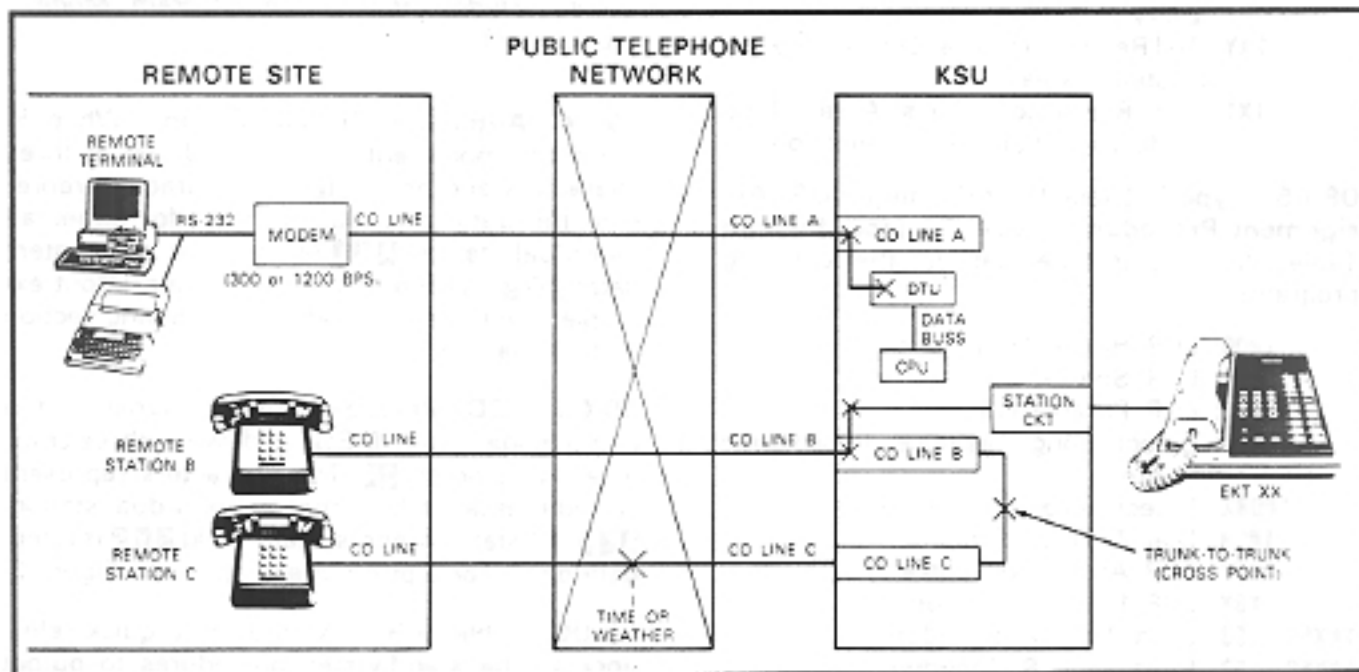

FIGURE 4—TEST MODE FUNCTION DIAGRAM
10.02 This testing function is accomplished by accessing stations from the remote terminal, and activating various keys on the EKT to make telephone calls, set function keys, change the system time and date, etc. (see Figure 4).
10.11 To test CO line transmission, two or three CO lines must be available at the remote site (see Figure 4).